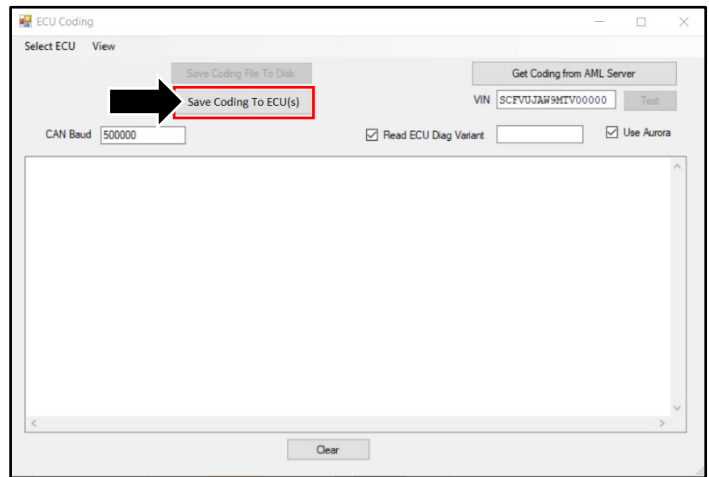

Figure 4
7. Select “Save Coding To ECU(s)” (refer to Figure 4).